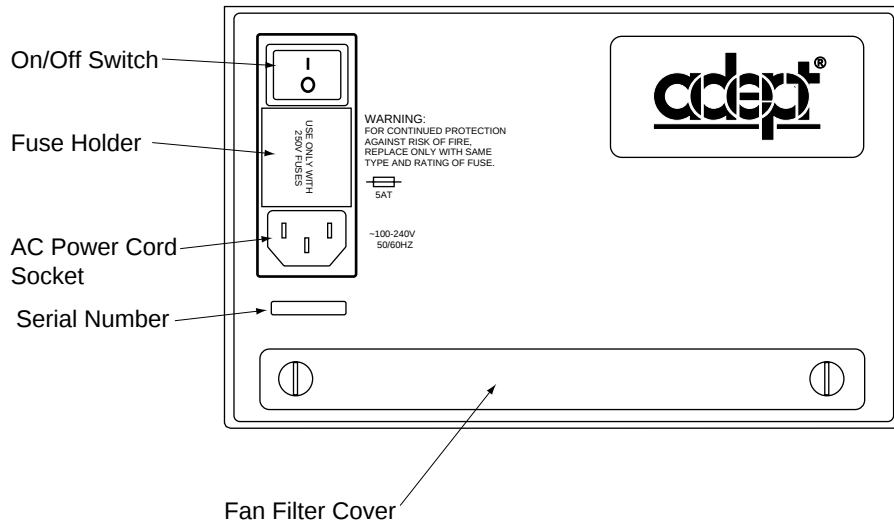

Figure 3-1. MV-5/MV-10 Power Entry Module
The identification (ID) label is located on the left or back side of the controller chassis. On it you will find the model and serial numbers and the voltage and current ratings. A smaller serial number label is also located on the front of the chassis near the On / Off switch (see Figure 3-1). You should always have this serial number available when you call Adept Customer Service for technical support.
The fan filter must be inspected at least once per month to check for dirt and dust buildup. The fan filter is located behind the filter cover on the front of the controller (see Figure 3-1). See Chapter 14 for information on inspecting and cleaning the fan filter.